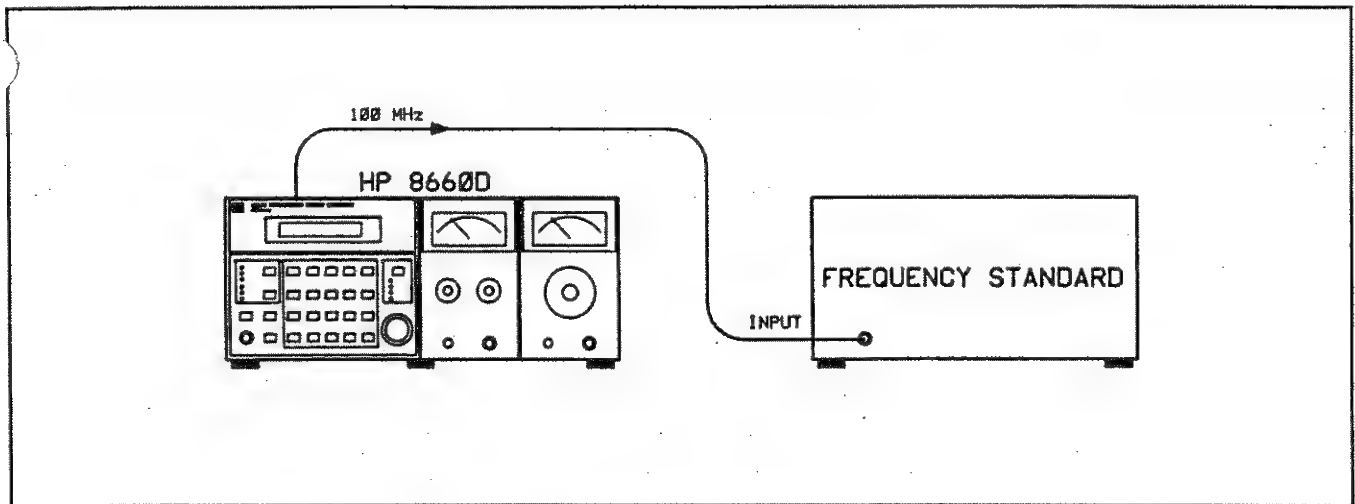

Figure 5-4. 100 MHz Adjustment Test Setup
- a. Connect the frequency counter to the 100 MHz output on the A4A4 assembly (see Figure 5-4).